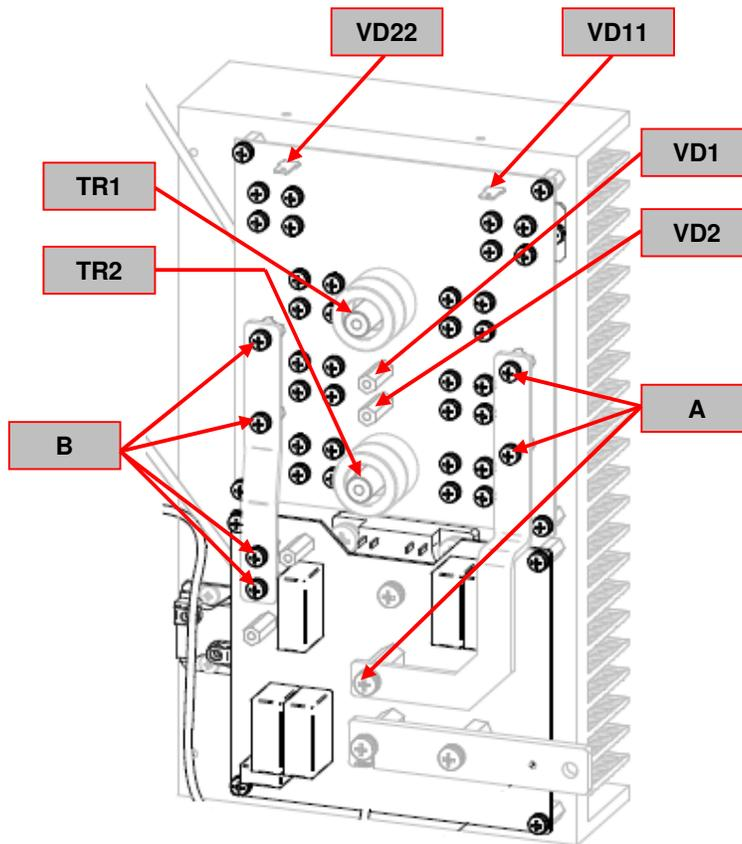

Figure 34
3. Locate the Output Diode board W05X1523 on the left side of the machine, see **Figure 34**
See **Figure 34**
6. Using the phillips screwdriver remove and label the main transformer leads connected to the terminals **TR1** and **TR2**. See **Figure 34**
7. Using the Phillips screwdriver reinstall the 3 screws (**A**) to the right copper bar. (torque 3Nm max.). See **Figure 34**
8. Using the Phillips screwdriver reinstall the 4 screws (**B**) to the left copper bar. (torque 3Nm max.). See **Figure 34**
9. Reconnect the previously removed and labeled cables to terminals **VD11** and **VD22**. See **Figure 34**
10. Using the Phillips screwdriver reconnect the previously removed and labeled leads to the terminals **VD1** and **VD2** (torque 3Nm max.). See **Figure 34**
11. Using the Phillips screwdriver reconnect the previously removed and labeled main transformer leads to the terminals **TR1** and **TR2** (torque 3Nm max.). See **Figure 34**